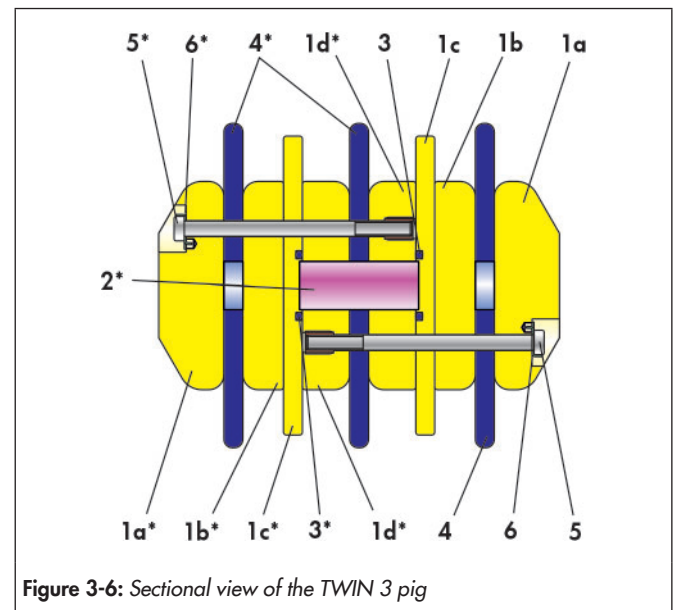

**Figure 3-5: Dimensional drawing of the TWIN 3 pig**
- ⇒ Insert the first O-ring (3) into each of the end caps of the basic body (1a and 1b).
- ⇒ Insert sealing lip (2) into each of the end caps of the basic body and push up to the O-ring.
- ⇒ Insert the second O-ring (3) into each of the end caps of the basic body and push up to the sealing lip.
- ⇒ Consider tolerances and tightening torques when assembling, see figure 3-5 and table 3-4.